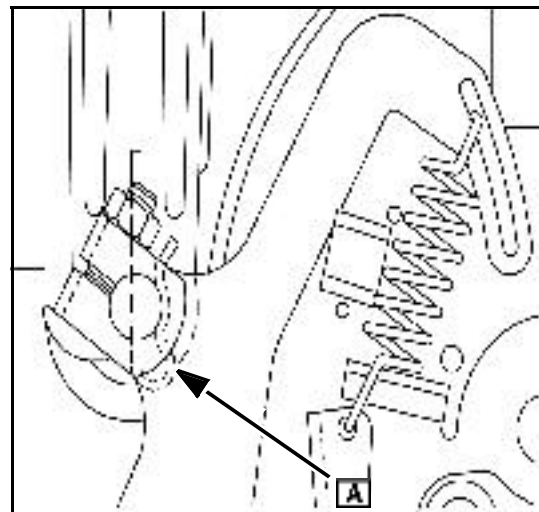

Fig. 29
3. Install washer and spring clip. Install spring clip ([A] Fig. 29) as shown.